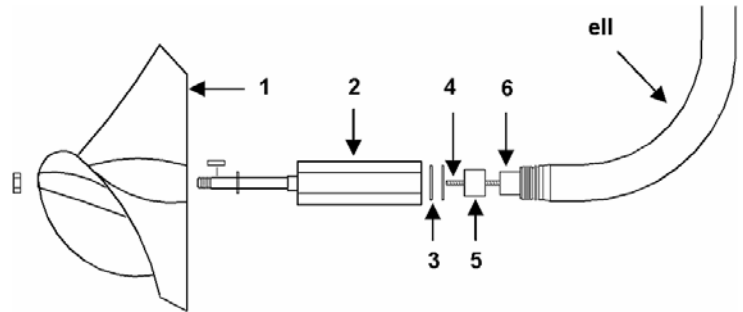

Figure 7
Step 2) Remove the complete meter from the pipe, or the meter head assembly from the pipe if so equipped. Remove the propeller (1), bearing assembly (2), bearing o-ring(s)(3), cable (4), liner stop (5), and liner (6) from the ell. (**Figure 7**)
Remove the meter lower end components - propeller, bearing, etc. (Figure 7).